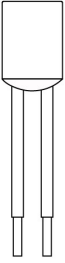

**FIGURE T-2**
2. When bending leads, please use pincher or similar tools to fix the product as shown in Figure T-2 to avoid damaging the product.
5. Bending radius  $R: \geq 15 d$ , as shown in Figure T-2.